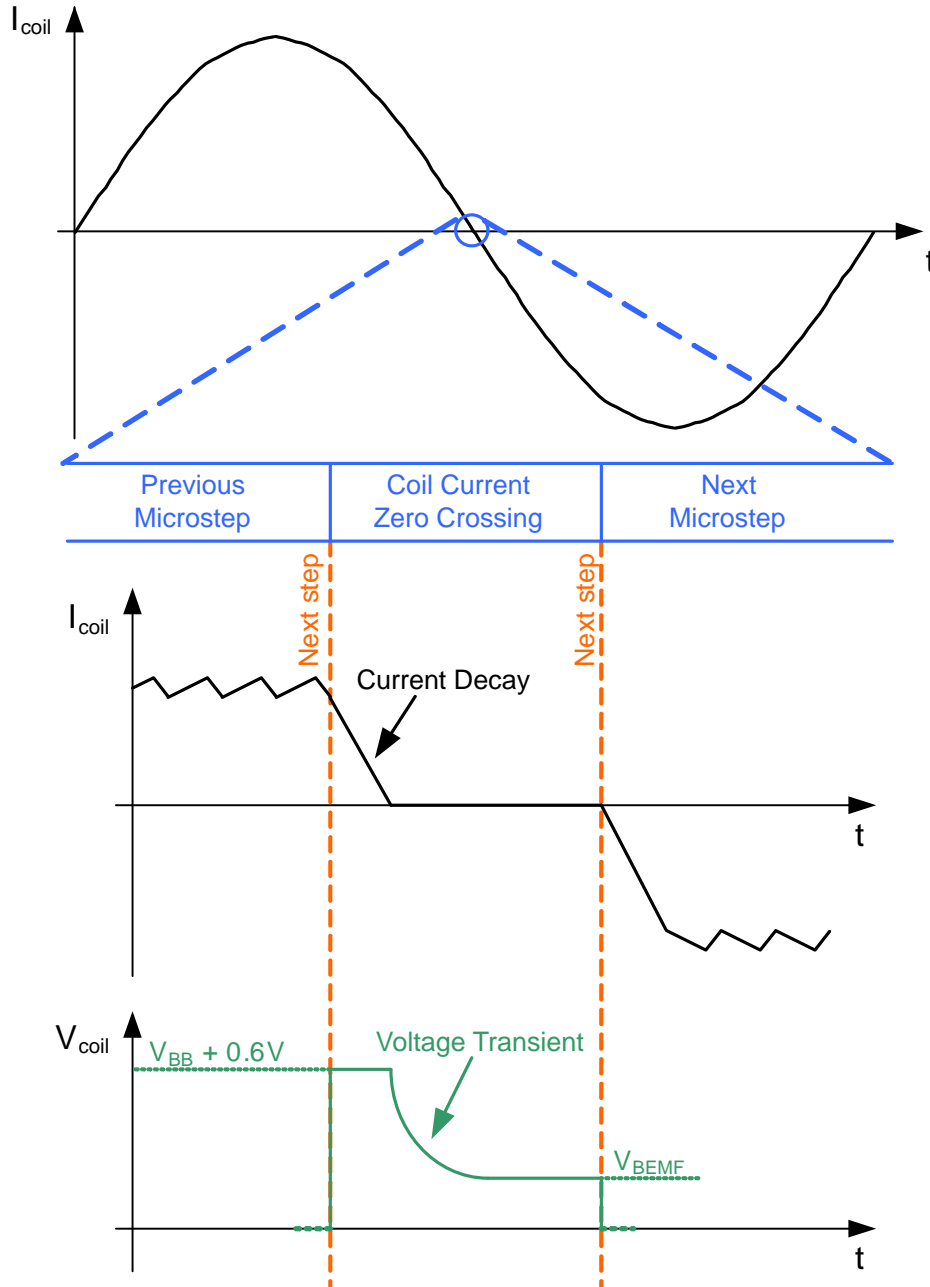
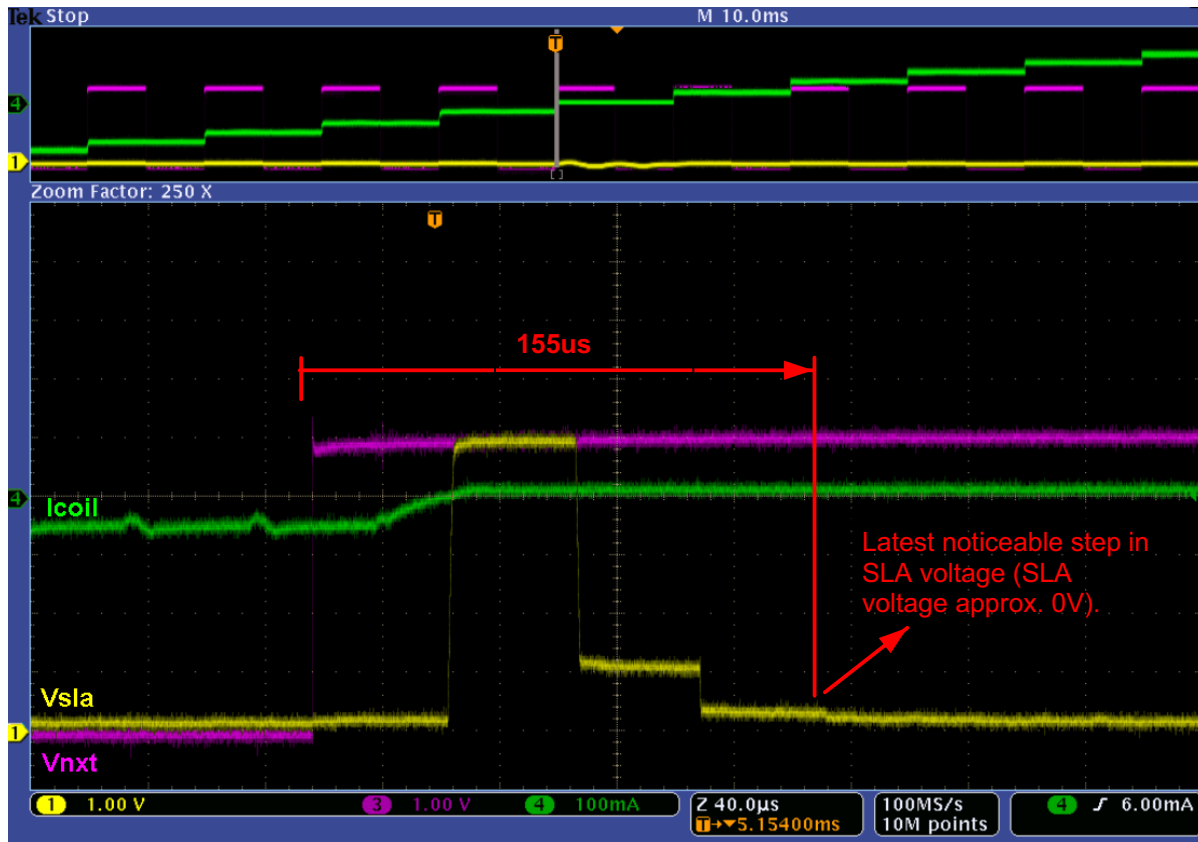
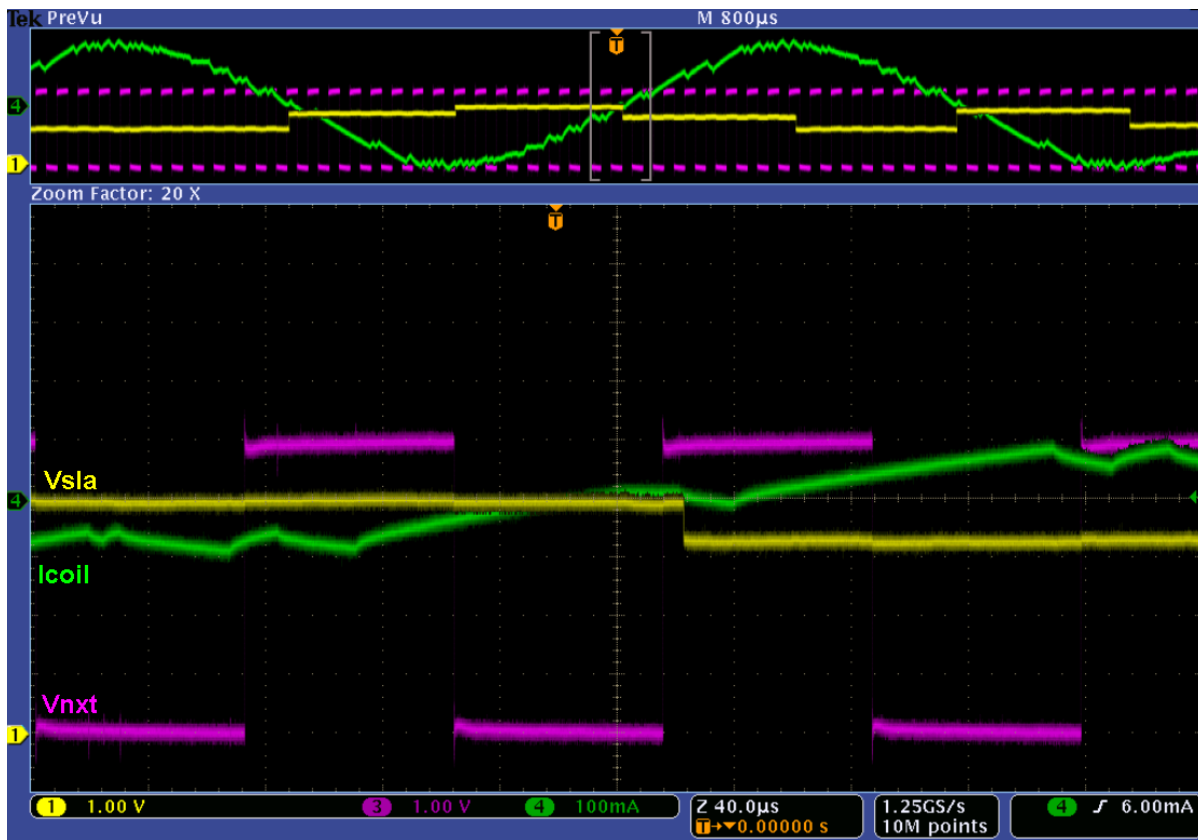

Figure 11. Coil Voltage Behavior During Current Less State
Figure 14. Define Maximum Operating Speed
Figure 17. Too High Speed Results in Incorrect BEMF Sampling
As explained in *Transparency Mode*, one needs to be careful when to measure the BEMF. After the start of the coil current zero crossing it takes some time before the real BEMF can be measured (see Figure 11). Leaving the coil current zero crossing stage too early will result in an incorrect BEMF sampling (= the measured voltage on the SLA-pin will not represent the real BEMF). This will limit the maximum operating speed.
- Step 9: Measure the coil current in one of the coils, measure the voltage on the SLA-pin and monitor the NXT-pin. Best is to trigger the oscilloscope on the coil current zero crossing. Figure 14 gives the results measured with a Nidec Servo stepper motor operated at 12 V and 415 mA coil current. Stepping mode was set to 1/8 microstepping. A zoom is taken on the coil current zero crossing. At the rising edge of the NXT signal (purple curve) the coil current will be regulated to zero. Notice that the SLA voltage (yellow curve) claps to 5 V. This is because the coil voltage (not visible on the oscilloscope plot) will clamp to $V_{bat} + 0.6 \text{ V}$ (see Figure 11). After this you see the SLA voltage drop to zero. This is the transient part (see Figure 11). Keep in mind that the SLA voltage is only update at the PWM frequency rate (this gives the steps in the SLA voltage).
As can be seen in Figure 14 this time is about 155 μ s.
too fast resulting in an incorrect SLA voltage (see Figure 17). The jumps in the SLA voltage is because the coil current zero crossing is left too early and the transient part is sampled (see also Figure 11).